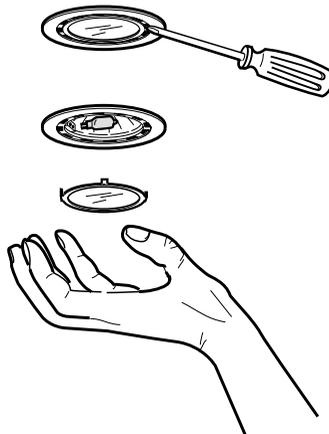

Fig. 6
- Remove the lamp cover, use a screw driver as a lever. **Fig. 6.**